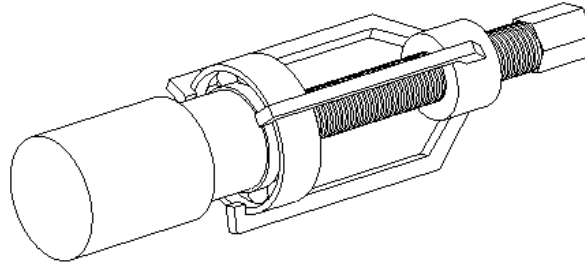

Figure 7-1. The bearing puller.
5. Extract the ball bearing with a puller (see *Figure 7-1. The bearing puller*).
6. Extract the ball bearing with a puller (see *Figure 7-1. The bearing puller*).